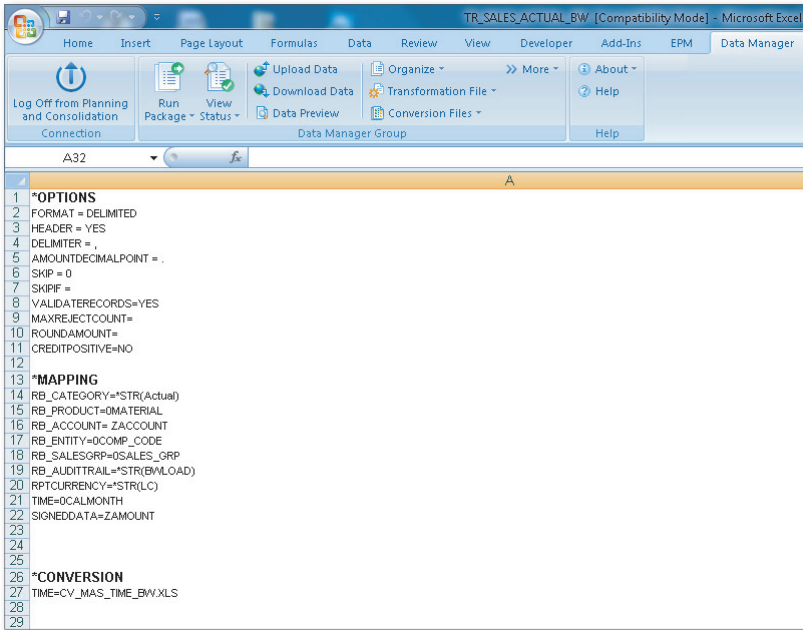

Figure 4.49 Loading Data from an InfoCube into a Model—Part B
4. Create a transformation file with the definitions shown in Figure 4.49. In the *MAPPING section, the dimension names are mapped to the corresponding InfoObject in the ZSLSACT InfoCube. The assignments for the Category and Reporting Currency dimensions are set to a constant value. In the *CONVERSION section, map the Time dimension to the conversion file created in the previous step. Save the transformation file as “TR_SALES_ACTUAL_BW.xls”. Add the command to reference the conversion file in the *CONVERSION section for the Time dimension in the transformation file.